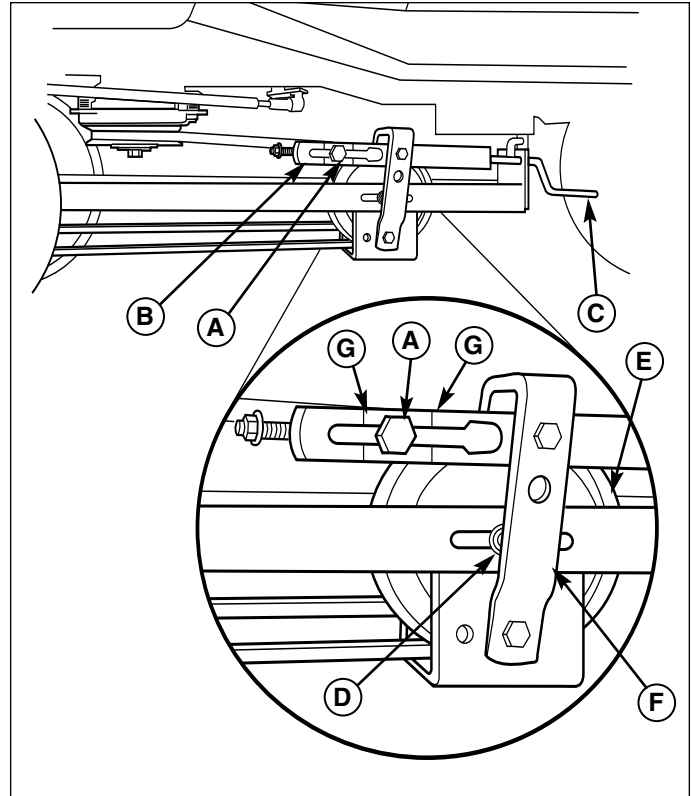

Figure 8. Adjusting Belt Tension
See Figure 8.
1. Loosen the drive belt by turning the handle (C, Figure 8).